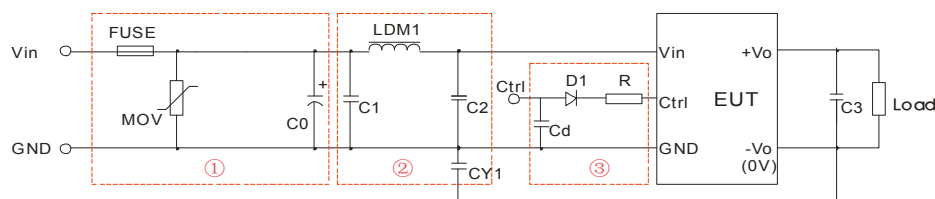

Fig. 3
- ① Part ① in Fig. 3 is used for EMS test while part ② is used for EMI filtering; and parts ① and ② may be selected based on needs.
- ②  $V_C$  is the voltage of the Ctrl end relative to the GND of the input grounding;  $V_D$  is the positive-going conduction pressure drop of D1;  $I_C$  is the current flows into the Ctrl end and its value is generally 5-10mA, see Fig. 3-③ for the peripheral circuit of Ctrl end;
- ③ If there is no recommended parameters, no external component is required.